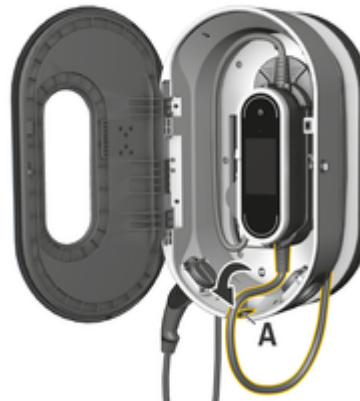

Fig. 19: Attaching the control unit
3. Guide the vehicle cable through the opening **A** (Fig. 19) and wrap any excess cable around the charging dock.